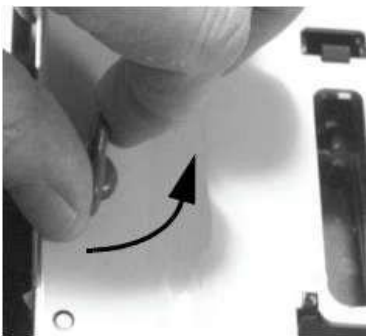

Figure 12.5 Turn the fastening bolt
1. Press and hold the cover and turn the fastening bolt counterclockwise to open the cover. Turn the cover back around the shaft head, as shown in Figure 12.5.